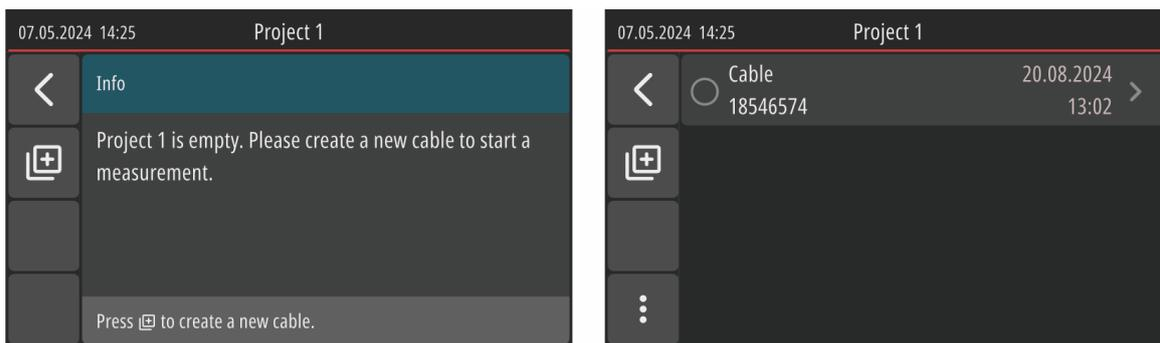

Figure 48: Empty Cable List (left figure) and filled out Cable List (right figure)
- Select desired Project ⇒ Cable List within the Project will be offered, see the Figure 48.